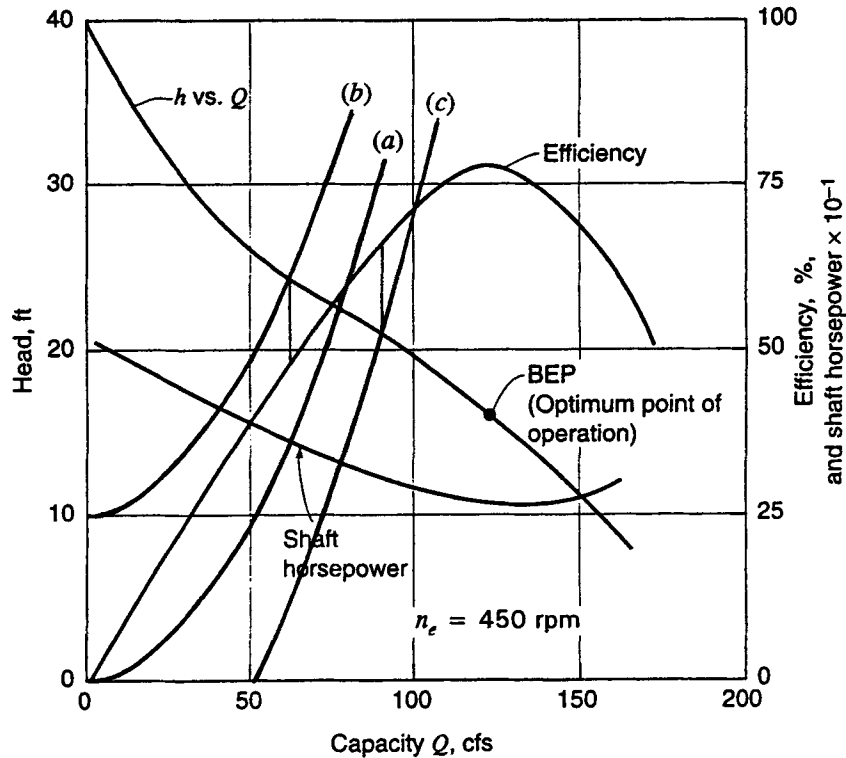

Figure 15.7, modified
15.15 A pump whose characteristics are shown on Fig. 15.7 when operating at 450 rpm is used to pump water from reservoir A to reservoir B through a 24-in-diameter pipe ($f = 0.028$) of length 170 ft. Neglecting minor losses, find the flow rate and pump efficiency for the following conditions; (a) reservoir water-surface elevations identical; (b) water surface in reservoir B is 10 ft higher than that in reservoir A; (c) water-surface elevation in reservoir B is 10 ft lower than in reservoir A.
Pump characteristic curve is given in Fig. 15.7 (see below).
Prob. 15.15: A pump with the characteristics of Fig. 15.7 (see with Solution 15.15) pumps water from reservoir A to reservoir B through a 170-ft-long pipeline ($f = 0.028$, $D = 24$ in). Find Q and the pump η for (a) reservoir water surface elevations identical, (b) water surface B 10 ft higher than A; (c) water surface B 10 ft lower than A.
The pump characteristic curve is given in Fig. 15.7 (see previous problem).